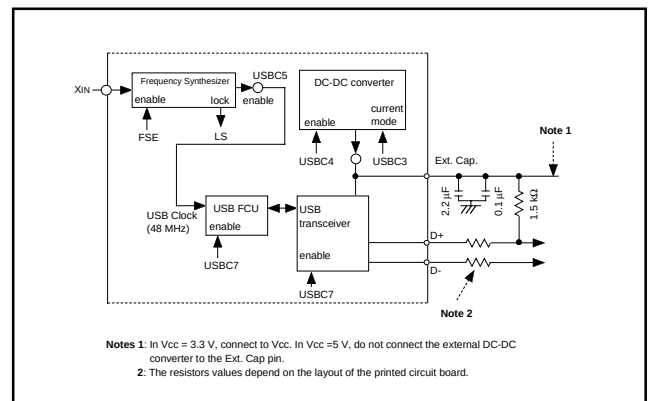

Fig.112 Peripheral circuit
•Connect a capacitor between the Ext. Cap. pin and the Vss pin. The capacitor should have a 2.2  $\mu$ F capacitor (Tantalum capacitor) and a 0.1  $\mu$ F capacitor (ceramic capacitor) connected in parallel. Figure 112 for the proper positions of the peripheral components.